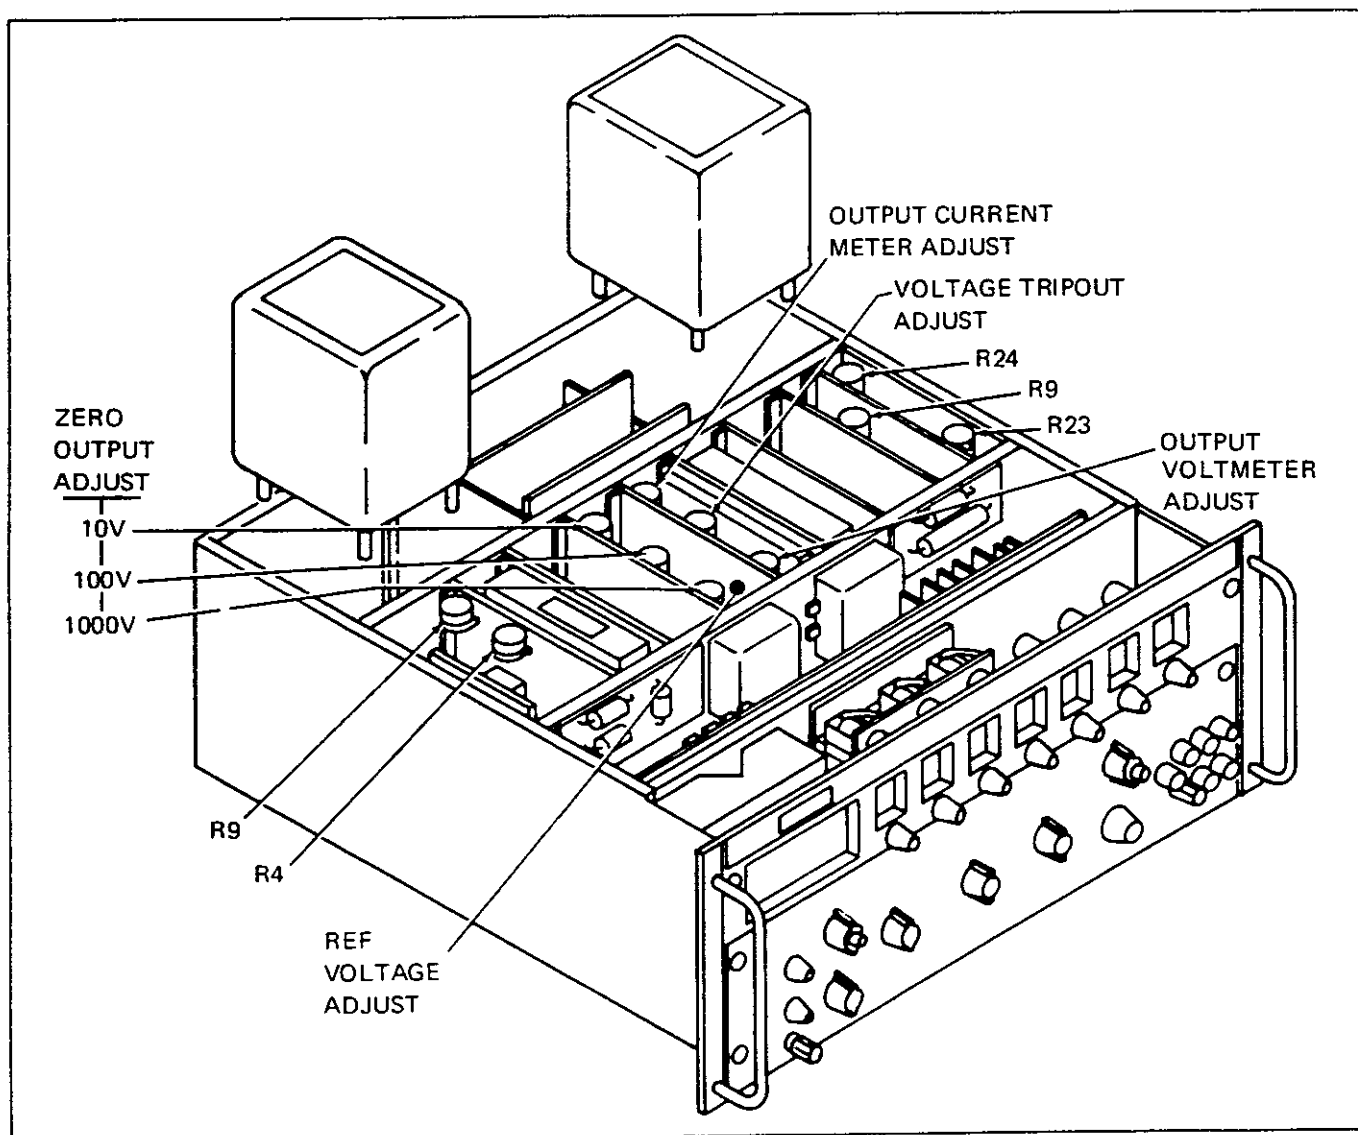

Figure 4-8. Location of Adjustments
3. Refer to Figure 4-8, and adjust R4 until the period of the squarewave is 11.9 milliseconds.
3. Refer to Figure 4-8, and adjust A6A1R9 for a full scale meter deflection $(1.0) \pm 1/2$ a small division.
6. Referring the Figure 4-8, adjust A5A5R9 until the Model 895A indicates 25 volts, ± 10 millivolts.
3. Referring the Figure 4-8, adjust R23 for a 60 milliamperere indication on the external meter.
4. Rotate the CURRENT LIMIT control maximum counter-clockwise. Referring the Figure 4-8, adjust R24 for a 0.5 milliamperere indication on the external meter.